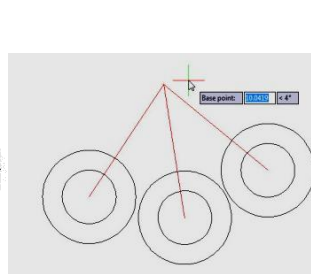

Fig 8
*Base point*: Specify a base point (Fig 8)